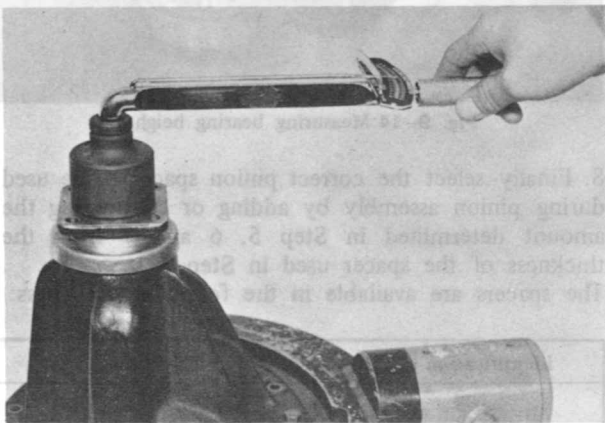

Fig. 9-16 Checking pinion bearing preload
6. Tighten the pinion nut to **20 m-kG (145 ft-lb)** and check the preload as shown in Fig. 9-16.